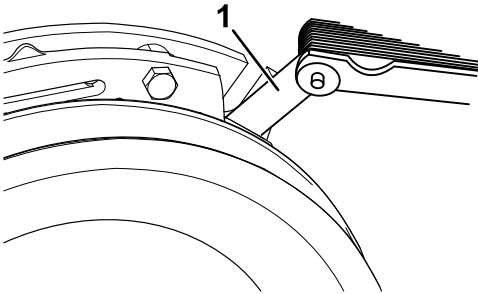
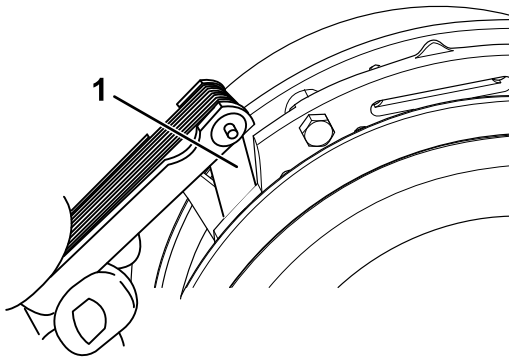

Figure 62
Figure 63
- E. Using a 0.010 inch thick-feeler gauge, verify that a gap is present between the rotor and armature face on both sides of the brake pole as shown in Figure 62 and Figure 63.